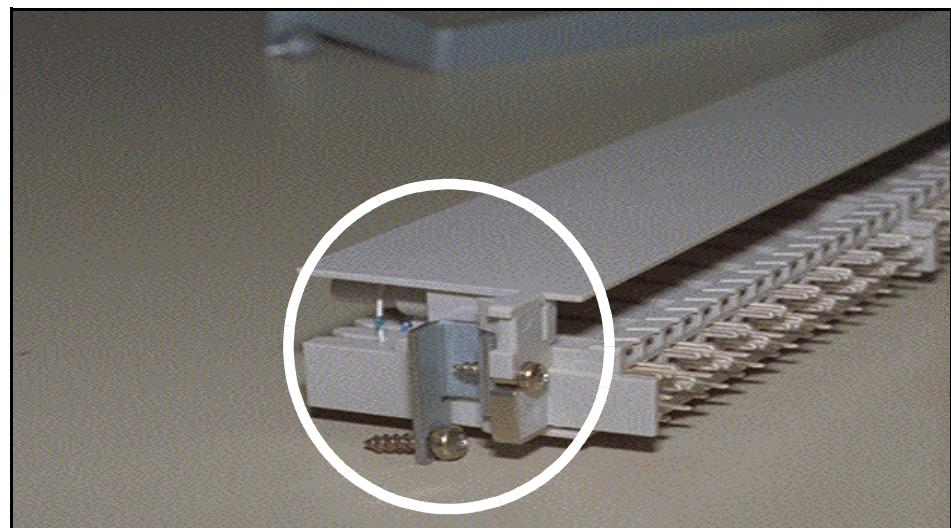

Figure 5 24DA splitting strips adapter strap, left
1. Fasten a screw on the applicable adapter strap to the left-hand side of the splitting strip, as shown in Figure 5.